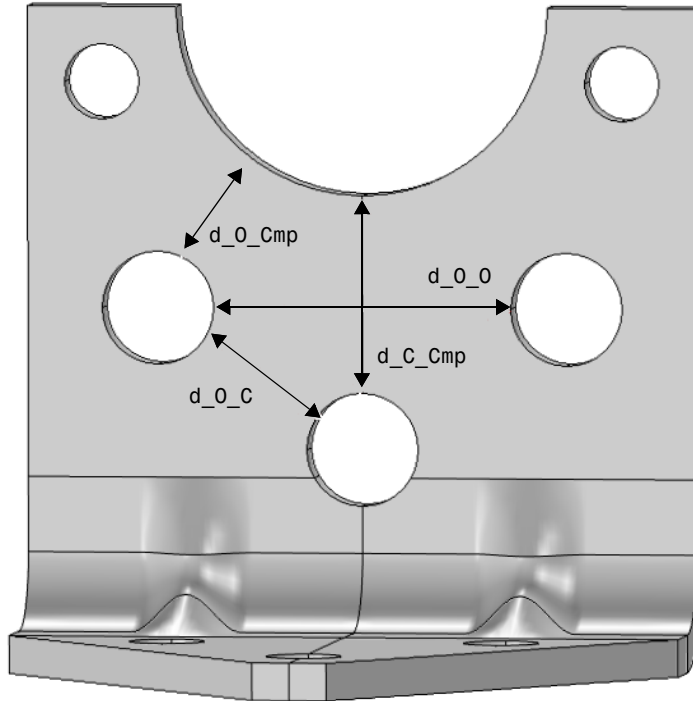

Figure 3: Geometrical constraints.
- There must be at least 3 mm of material between two holes, or between a hole and an edge. This criterion is enforced both through the limits on the control parameters and as constraints. The geometrical constraints are shown in Figure 3.